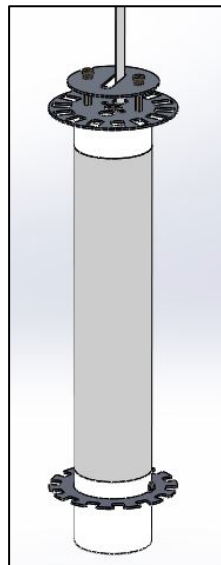

FIG. 2 -KWYET LUMINAIRE
1. KWYET LUMINAIRE with CORD attached. (Pre-assembled as shown in FIG. 2)